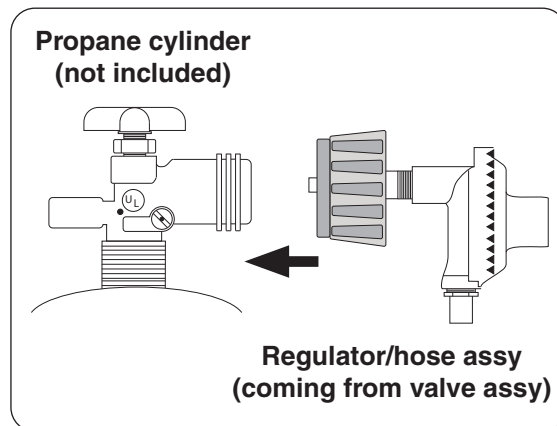

Fig. 18-1 Connecting to an L.P. cylinder
2. Attach the regulator end of the hose assembly to a propane cylinder (not included) and tighten (see Fig. 18-1).